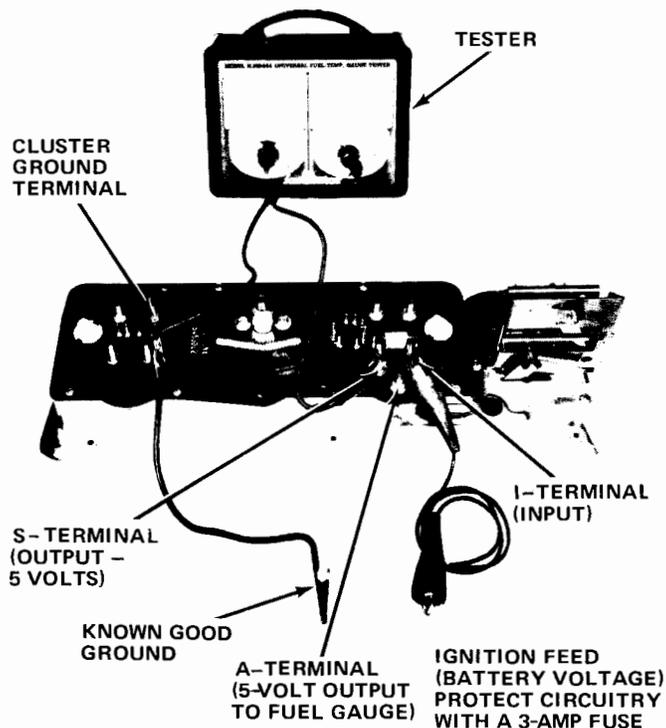

Fig. 3-69 Testing Temperature Gauge—Cherokee-Wagoneer-Truck
- (1) Disconnect battery negative cable.
- (2) Remove instrument cluster and disconnect all electrical connections.
- (3) Connect a jumper wire from cluster ground terminal to known good ground (fig. 3-69).
TEST RESULTS With Tester Connected as Shown in Figure 3-69	POSSIBLE LOCATION OF TROUBLE